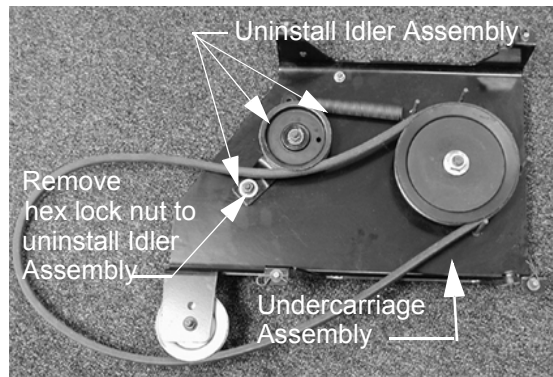

FIGURE 2
1. The Undercarriage Assembly may have been assembled with an Idler Assembly consisting of a pulley, idler plate, extension spring and shoulder spacer installed adjacent to the large pulley. See FIGURE 2.